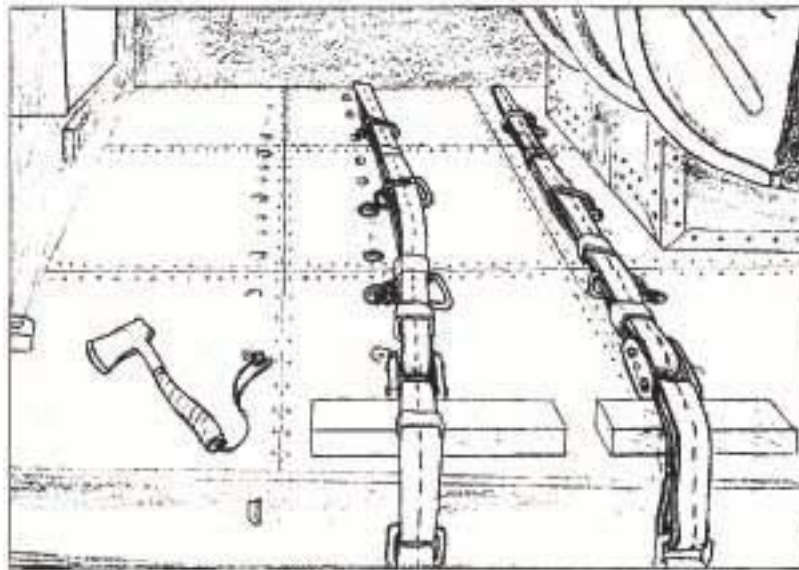

Figure 6-5. Primary Installation
a. Primary Method. Four 9 foot cargo slings and four Type-IV connectors may be used, allowing a back-up sling assembly. Two slings are connected end-to-end to constitute one "loop" through the aircraft. The second set of two slings are likewise connected end-to-end to constitute second loop (Figure 6-5). When using this method, eight carabiners are required connecting the slings to eight different cargo tie downs (four carbiners per loop) (Figure 6-7). Both loops must pass above the skids and through the eye of the SPIE rope. The slings must be kept as far aft as possible so not to alter the aircraft's center of gravity and degrade aircraft handling. Two of the Type-IV connectors must be inside the aircraft.